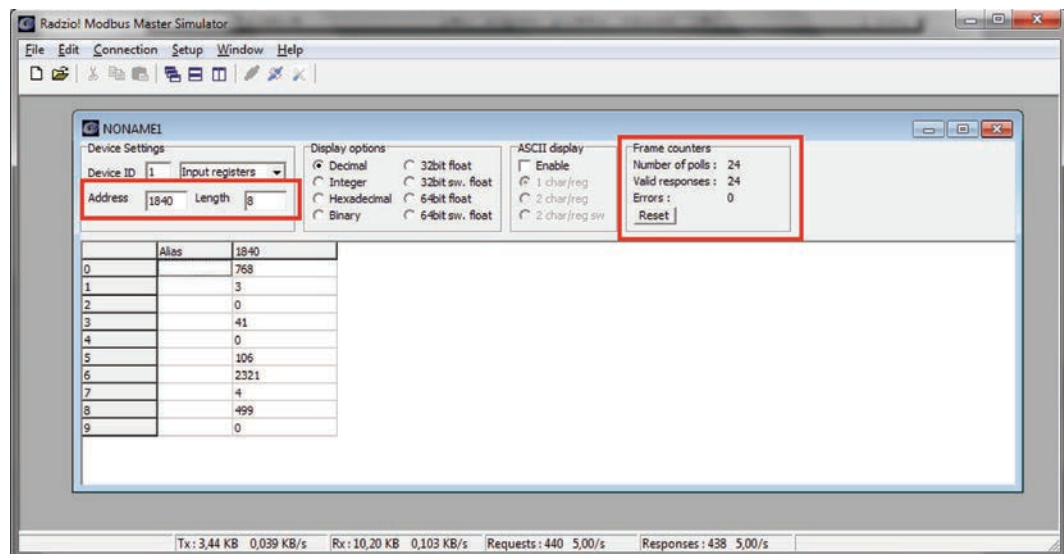

Fig 11: Modbus Example
12. Access the desired addresses at the Modbus sheet in Radzio (Fig 11) as described in the Modbus document (Fig 12).
If you only see zeros or bad values, check the Frame counter (Fig 11) to be sure that you receive “Valid responses”.